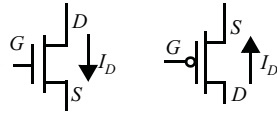

Figure 0.3 NMOS and PMOS devices.
3. [E, None, 3.3.2] Figure 0.3 shows NMOS and PMOS devices with drains, source, and gate ports annotated. Determine the mode of operation (saturation, linear, or cutoff) and drain current I_D for each of the biasing configurations given below. Verify with SPICE. Use the following transistor data: NMOS: $k'_n = 115\ \mu\text{A}/\text{V}^2$, $V_{T0} = 0.43\text{ V}$, $\lambda = 0.06\text{ V}^{-1}$, PMOS: $k'_p = 30\ \mu\text{A}/\text{V}^2$, $V_{T0} = -0.4\text{ V}$, $\lambda = -0.1\text{ V}^{-1}$. Assume $(W/L) = 1$.